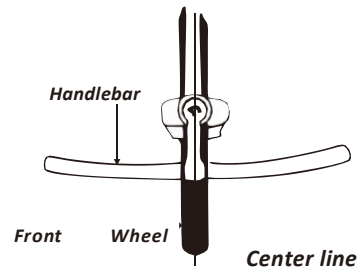

Fig.7
- 2) Align the handlebar stem with the front wheel(see fig.7). Tighten securely the expander bolt with an adjustable wrench.
- 6) Be sure that your handlebar and stem assemblies are properly tight before riding. The handlebar should not rotate in the stem. When you straddle and grip the front wheel between your knees, the handlebar should not be able to turn when you apply pressure horizontally. Refer to (fig. 7).